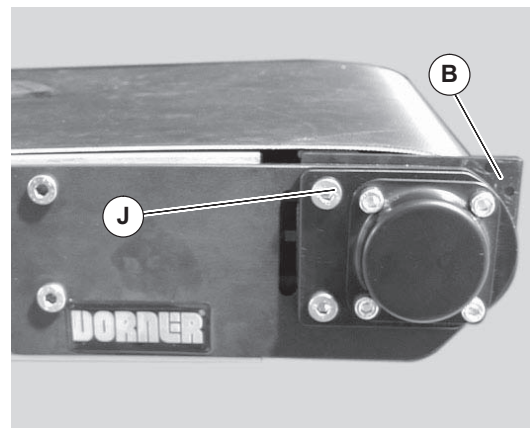

Figure 26
9. Replace with transfer plate spacer plates (Figure 26, item B). Insert screw (J) hand tighten.